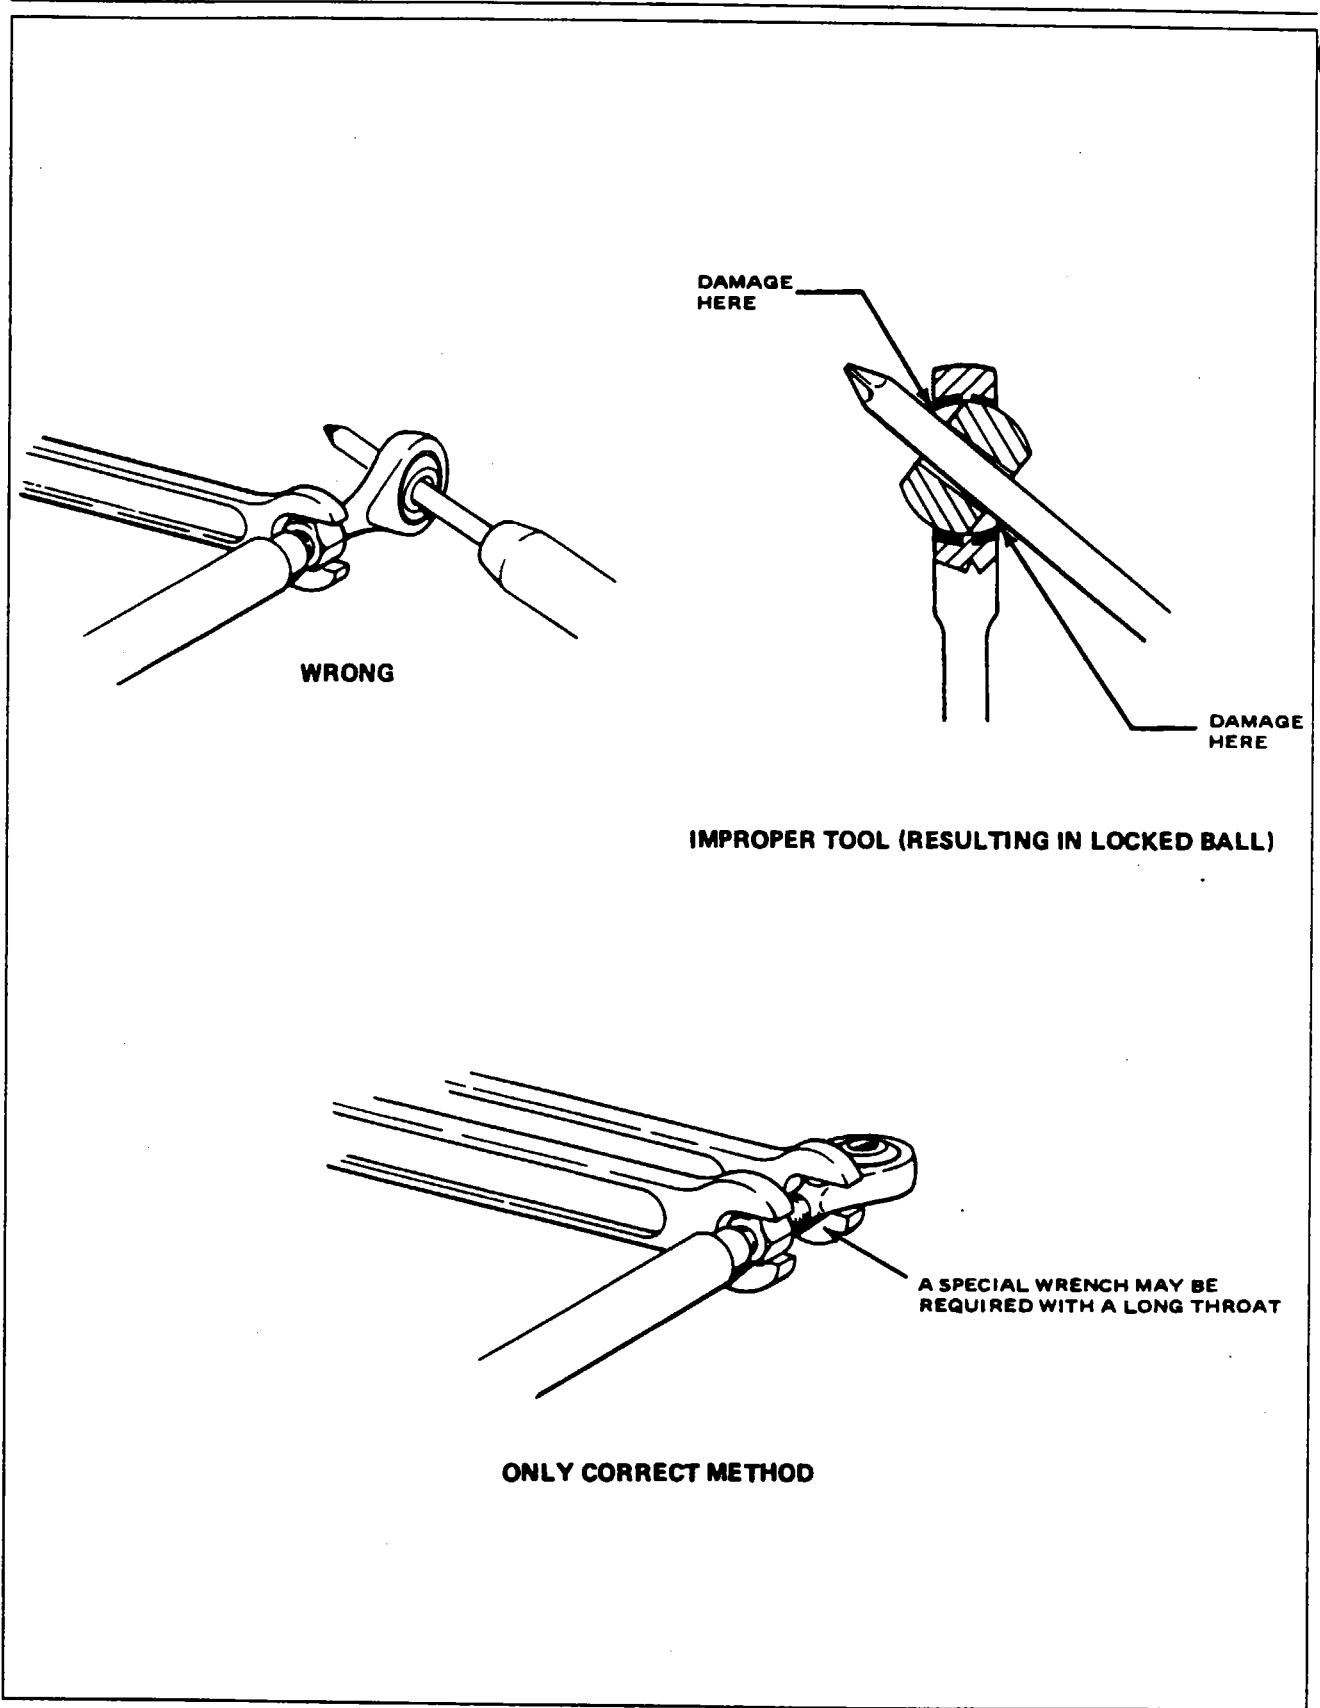

Figure 5-1. Correct Method of Installing Rod End Bearings
- i. When installing rod end jam nuts refer to Figure 5-1 for proper installation method.